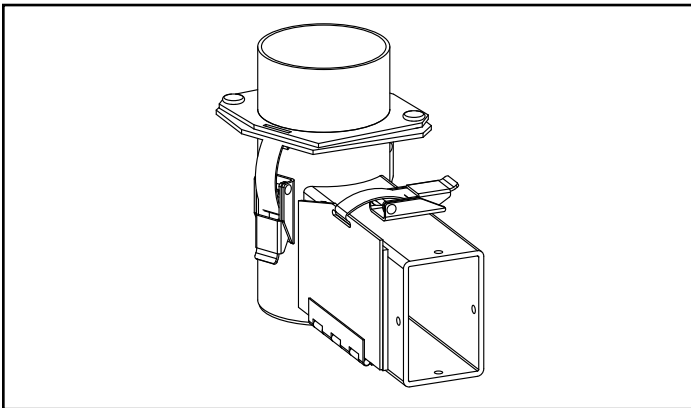

Figure 21.1
1. Remove the top vent adapter from the vertical exhaust transition pipe (**Figures 21.1 and 21.2**).